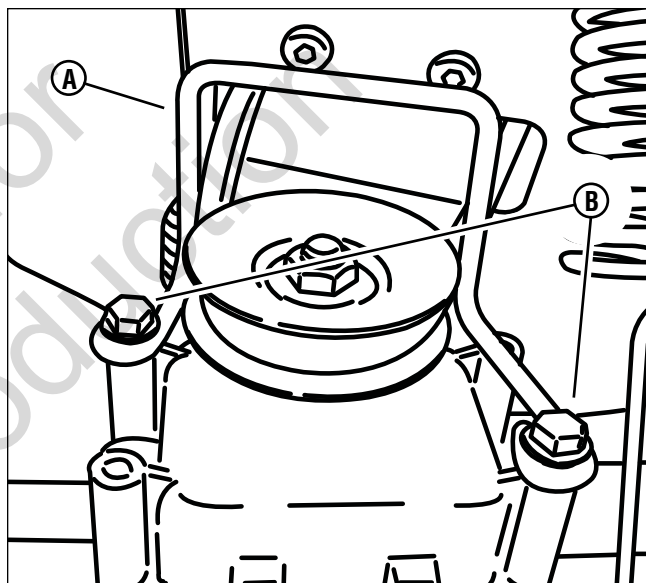

Figure 22: Removing the belt guide
- a. Remove the hardware (**B**, Figure 22) securing the belt guide (**A**) to the transmission assembly. Remove the belt guide.